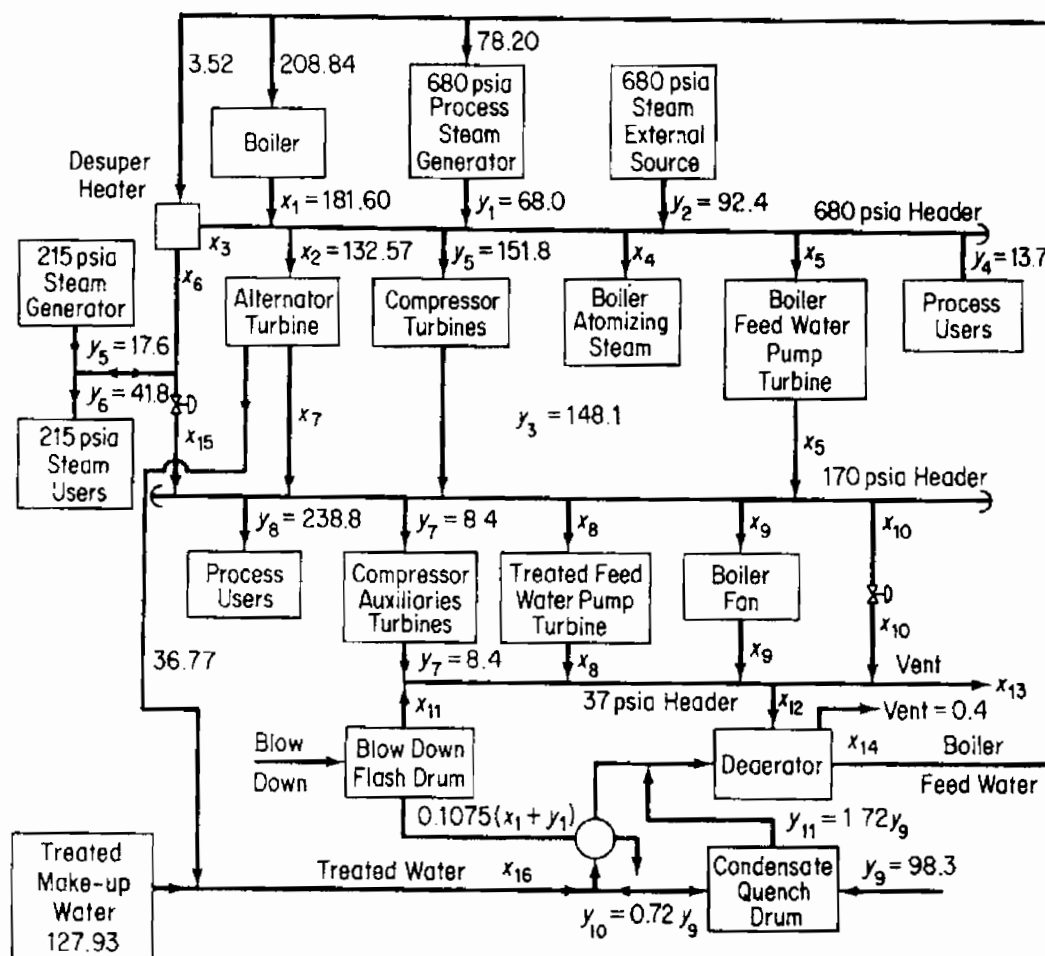

Figure P31.16
31.16 Determine the values of the unknown quantities in Figure P31.16 by solving the following set of linear material and energy balances that represent the steam balance: